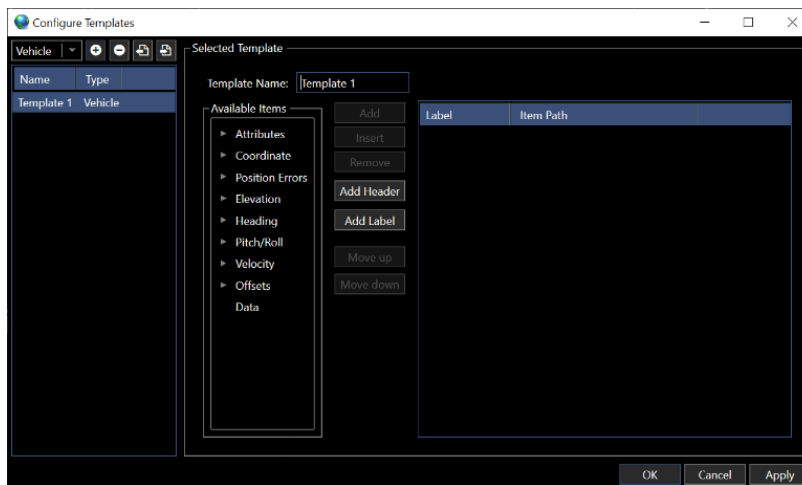

FIGURE 8-16 WINDOWS - TEXT TEMPLATE - VEHICLE TYPE
3. Select the desired type and click the  button to add the template to the list ready to be configured (see Figure 8-16 for an example of a Vehicle type)